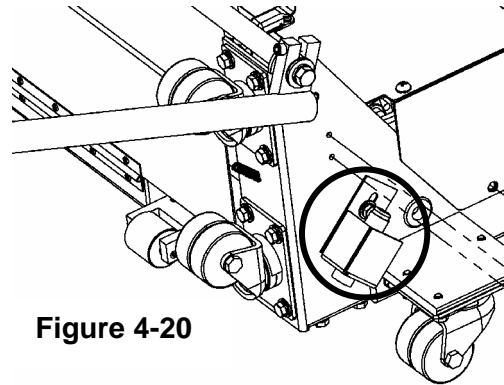

Figure 4-20
1. Locate the sensor on the bracket over the back, right caster wheel, as shown in Figure 4-20.